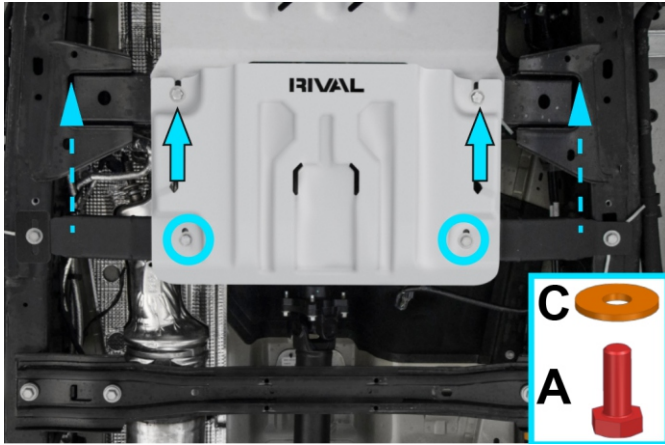

Fig. 11
8. Slide transfer case skid plate (item 1) over the previously installed M10x1.5x30 bolts and M10 washers installed in step 7. Slide the transfer case skid plate as far forward as possible and secure the rear of the skid plate to the previously installed crossmember using M10x1.5x30 bolts (item A) and M10 washers (item C) as shown in fig.11.